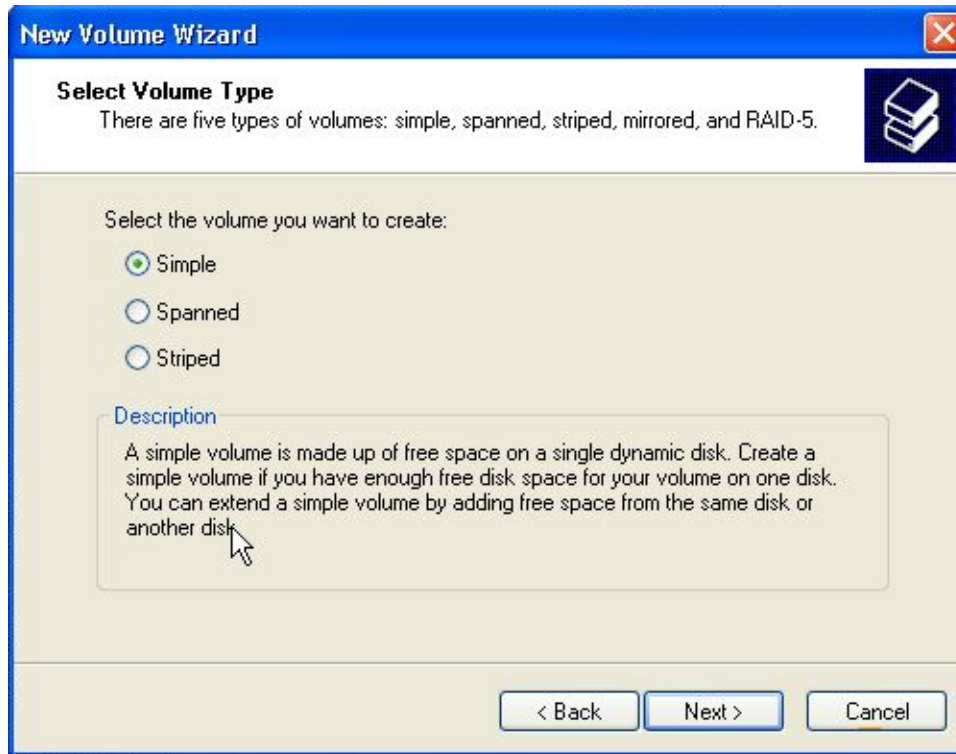

FIGURE 6-22. New Volume Wizard - Select Volume Type Screen.
1. When the *New Volume Wizard - Select Volume Type* screen appears, set the “Volume Type” to “Simple”. Click **NEXT >**. See Figure 6-22.